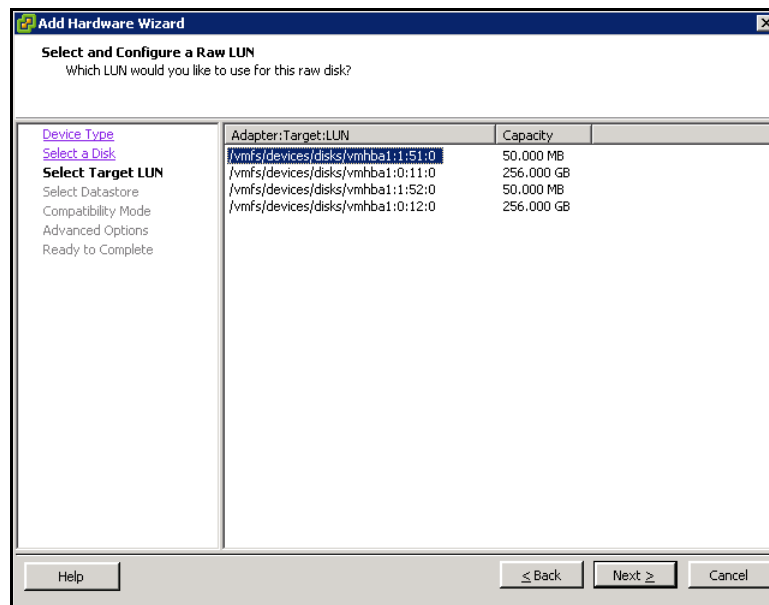

Figure 4-27: Select and Configure a Raw LUN Screen (Add Hardware Wizard)
5. Click **Next**. The Select and Configure a Raw LUN screen appears (Figure 4-27 on page 4-22).